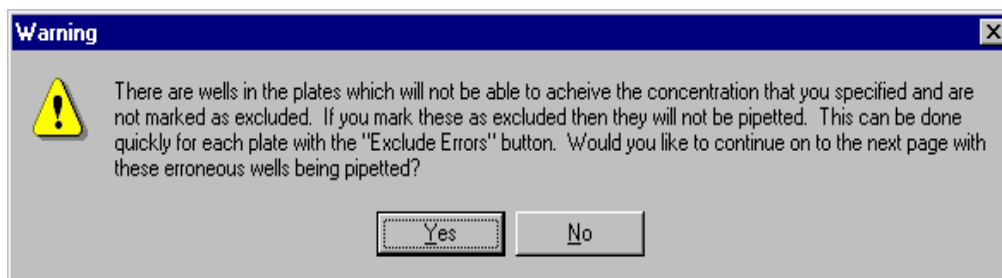

Figure 11. Exclude errors prompt
5.5.7 If the desired wells have been excluded from the procedure then answer “Yes” to the next prompt (Figure 11), if changes need to be made select “No” and the View Plates box in 5.5.6 reappears.